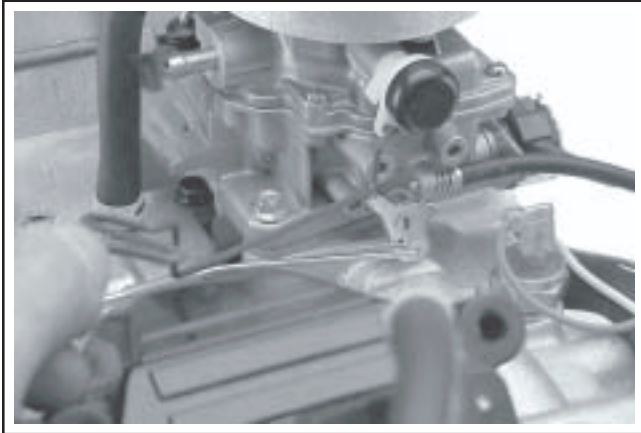

Figure 11-83. Connecting Choke Linkage.
6. Connect the long end of the choke linkage to carburetor as shown in Figure 11-83.